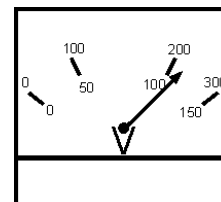
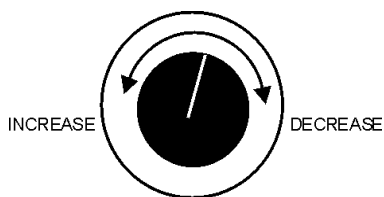

Figure 26. Voltage Meter (Volts)
Figure 27. Voltage Adjust Control Knob
11. The generator's voltage meter (Figure 26) displays the 120 VAC in VOLTS. If the voltage is not within the specified frequency tolerance, use the voltage adjustment control knob (Figure 27) to increase or decrease the desired voltage.